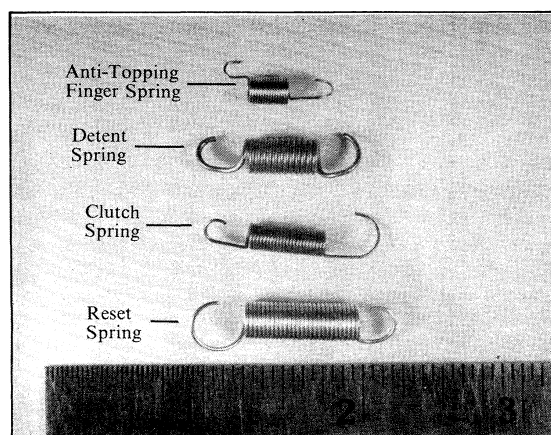

Figure 23. Spring Identification.
- See Figure 23 for identification of springs.